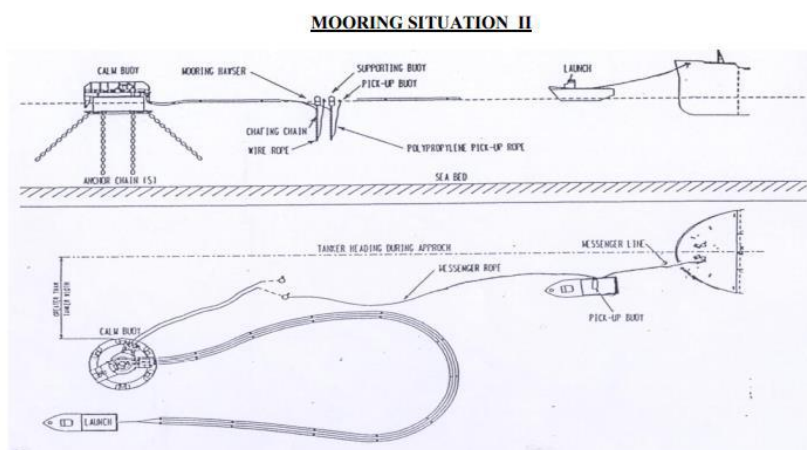

Figure 2 Floating hose is pulled away from upcoming tanker
- 3) Within a suitable distance, the Mooring Launch moves closer to the tanker on leeward side of the tanker bow and pick up messenger lines that are extended by the tanker crew through fairleads. Next, the mooring launch carries the ship's messenger lines forward and connect it to the SPM pick-up rope after first remove the marker buoy. See figure 2.